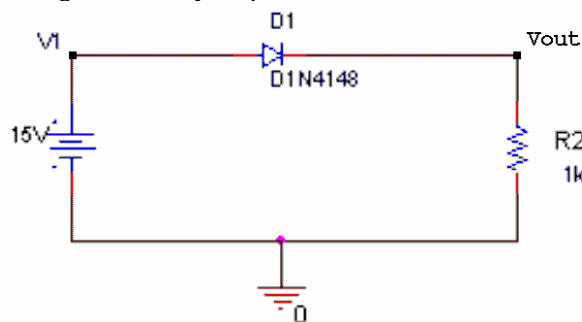

Figure A-7
- Wire the circuit shown in figure A-7 on your protoboard.
*half wave rectifier:* You have already built a half wave rectifier. If we had put a sign wave at the input to the circuit in figure A-7, you would have observed an output like the one shown in figure B-1.